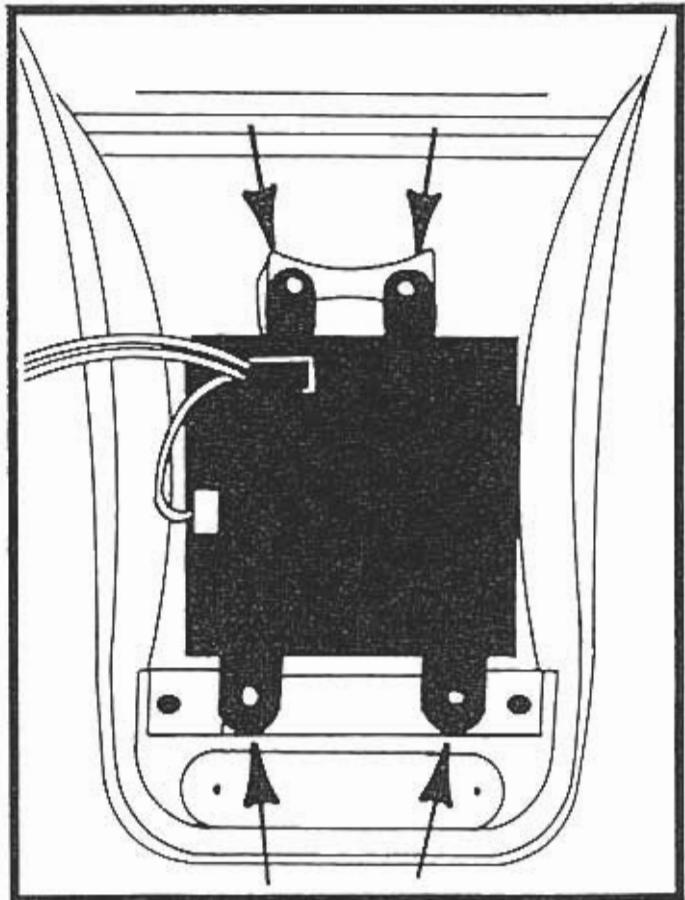

FIGURE 11
Install O.E.M. mini-trip computer and secure using (4) four #6 x ½" screws (item 1 pg 2). See figure 11. Do not overtighten screws.